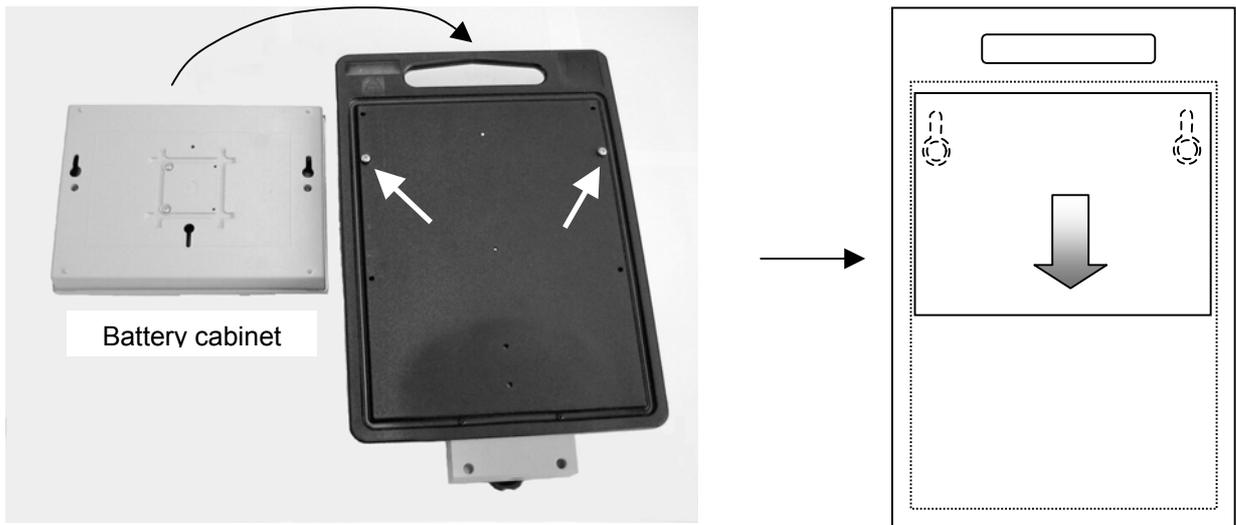

Figure 7. Mounting a Battery Cabinet on the Plastic Board.
3. Watch the “key holes” in the Battery Cabinet and put the key holes over the screws on the plastic board. (See figure 7).